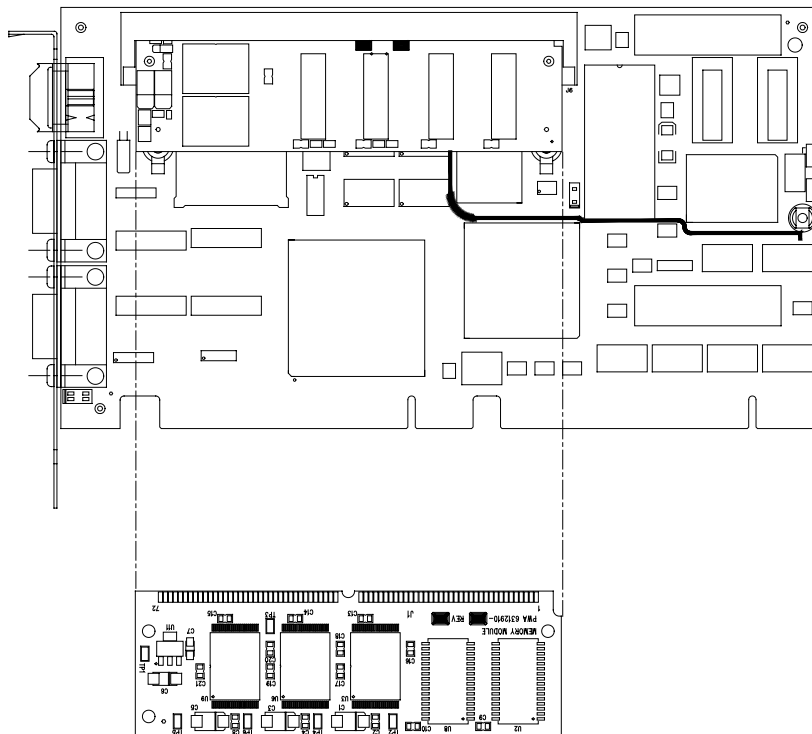

Figure 2: Removing the memory module
2. Remove the memory module from the robotics controller as shown in Figure 2.
3. Install the new memory module in the robotics controller (see Figure 2).